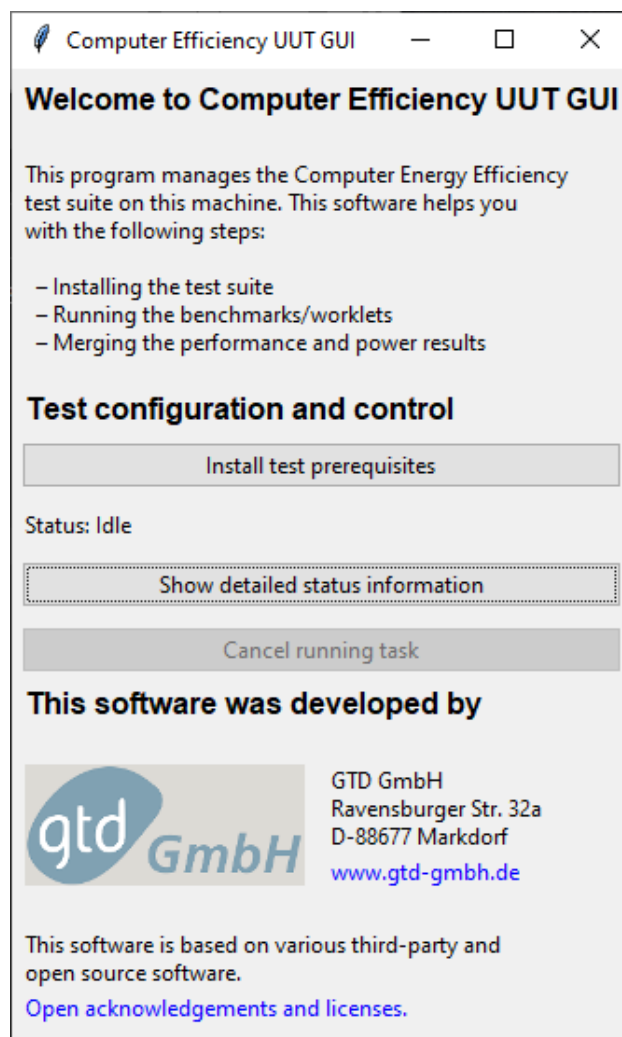

Figure 7.3: Test Suite installation GUI
Figure 7.3 below serves as a reference as this GUI is the same for the 3 proposed OS versions of the software.
- Click "yes" when asked if you want to allow this app to make changes on your computer. The EUT installation GUI is now displayed (see Figure 7.3)
- Double click the `macosx_eut_install` file. The EUT installation GUI pops-up (see Figure 7.3)
- Double click the `linux_eut_install` file. The Test-Suite GUI pops-up (see Figure 7.3). If you get an error message, the reason might be that the USB stick was automatically mounted without execute permissions. In this case do the following steps: